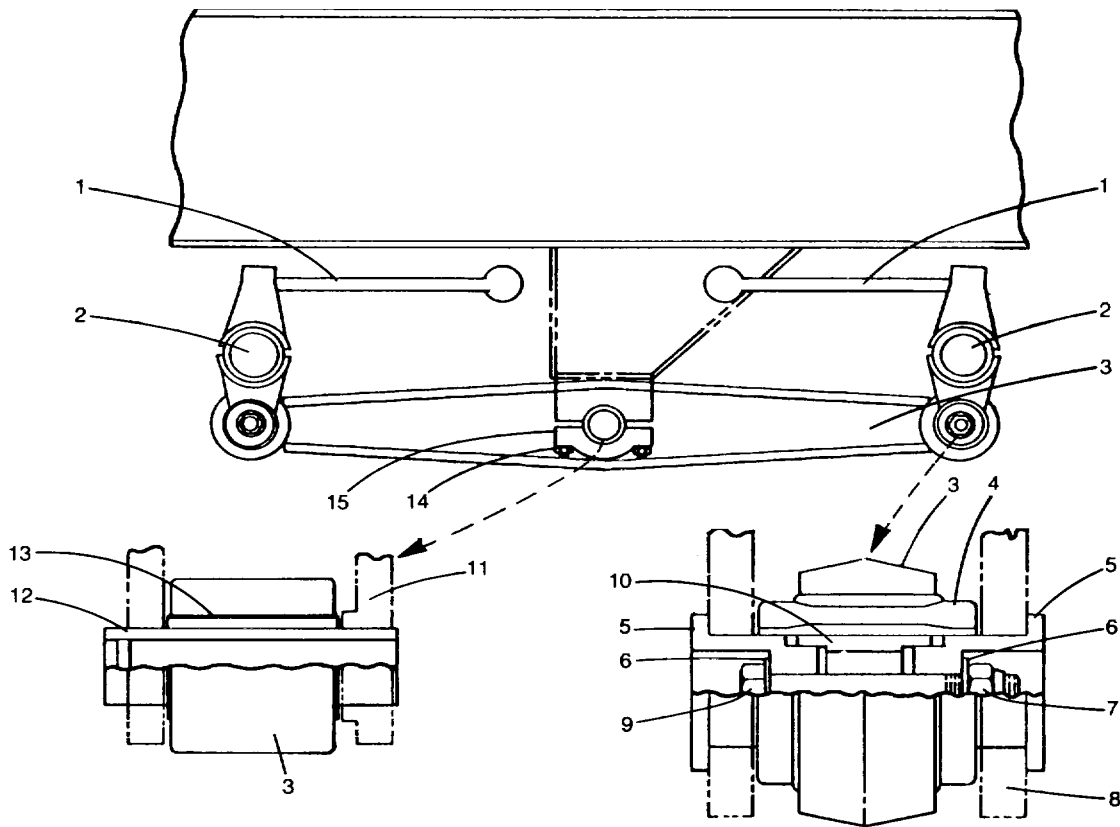
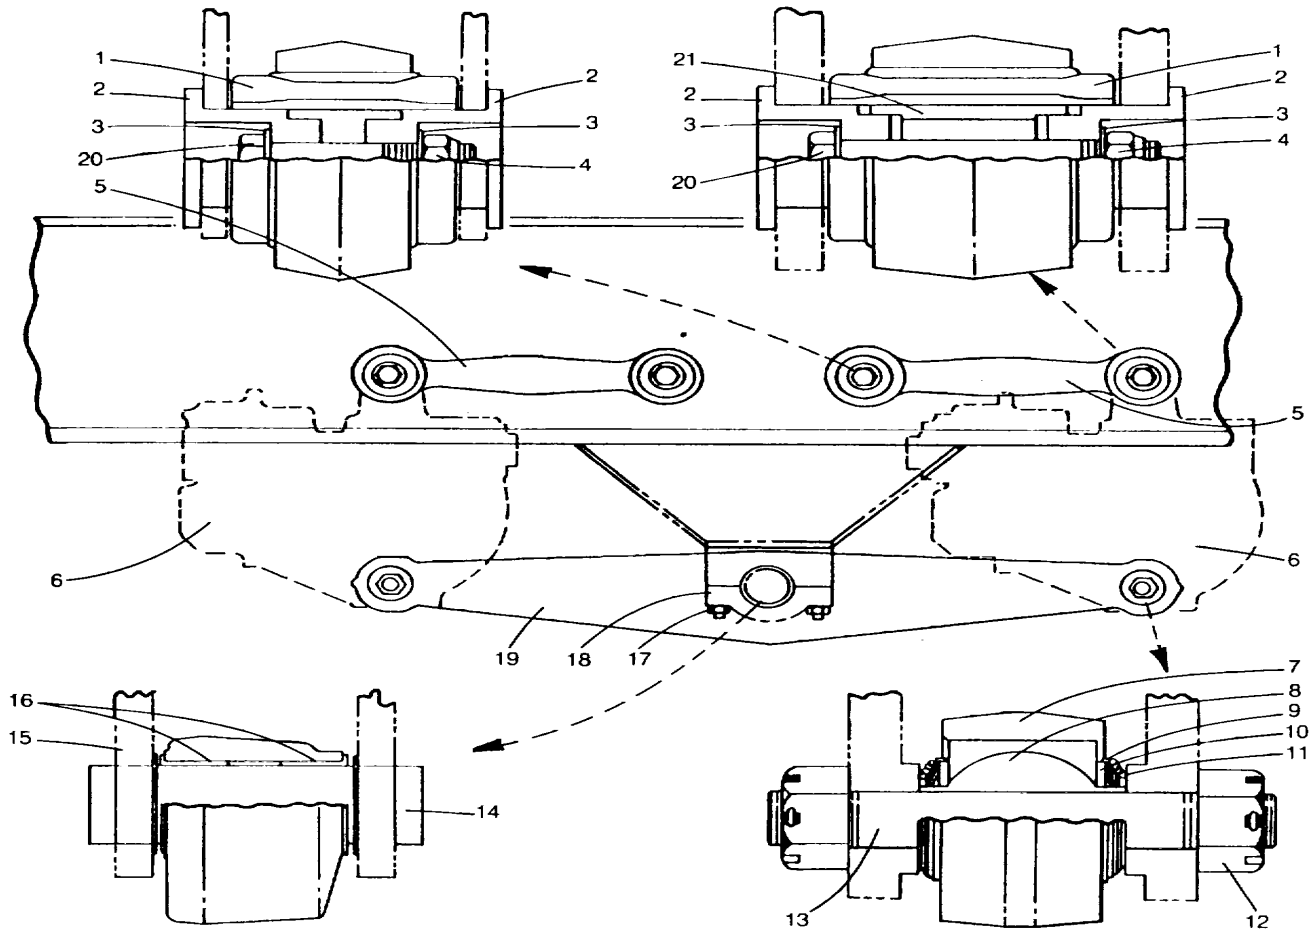

Fig. 1
Fig. 2
4.4 Brake Cam Removal (Fig. 1)
- (a) (1) Front suspension (refer to Fig. 1):
- (aa) Remove saddle caps (15).
- (bb) Disconnect beam end mountings: Remove bolt (9). Wedge out one adapter (5) using a chisel (a relief is provided on each side of the adapter for chisel entry), drive chisel first on one side then the other. After one adapter is removed the opposite adapter can be driven out with an impact hammer or heavy bar and hammer.
- (2) Rear suspension: Remove the end stud (13 refer to Fig. 2).
- (3) Separate beam from cross tube by pulling apart by hand.
- (1) Front suspension (refer to Fig.,3):
- (2) Rear suspension (refer to Fig. 2):
- (aa) Remove bolt (20).
- (bb) Wedge out one adapter (2) using a chisel (a relief is provided on each side of the adapter for chisel entry), drive chisel first on one side then the other. After one adapter is removed the opposite adapter can be driven out with an impart hammer and or heavy and hammer.